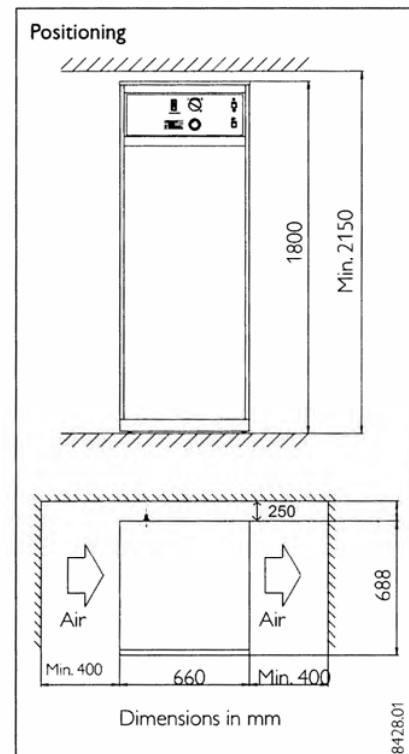

Fig. 4
- Never restrict the surroundings of the WWK 300 through walls or ceilings closer than shown in Fig.4.